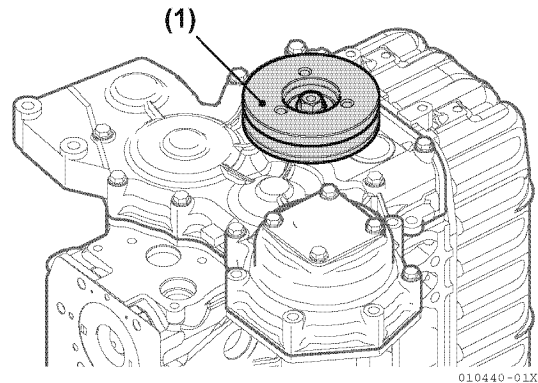

Figure 5-45
- 37. Loosen the nut holding the crankshaft V-pulley and remove the crankshaft V-pulley (Figure 5-45, (1)) with an extraction tool. When loosening the nut holding the V-pulley, be sure to use the correct tool to prevent rotation of the crankshaft.